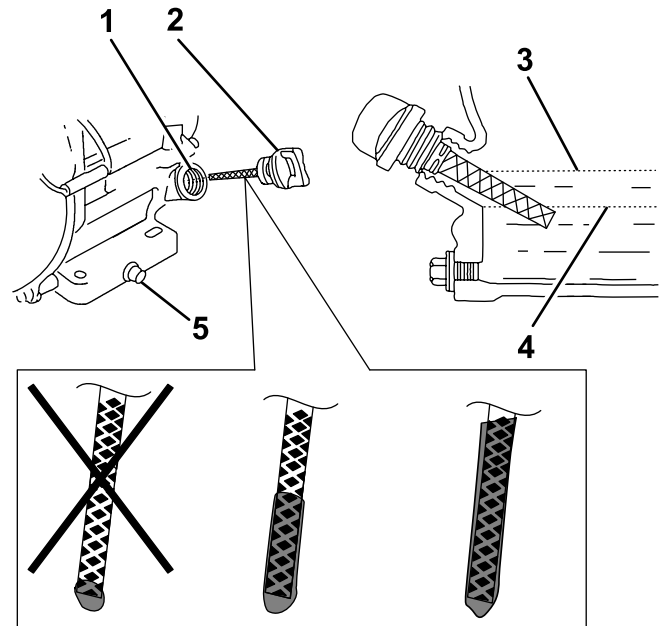

Figure 15
5. Remove the dipstick again and look at the end. If the engine oil level is low, slowly pour only enough oil into the filler tube to raise the level to the upper limit of the dipstick or the bottom edge of the filler tube (Figure 15).
6. Remove the dipstick and slowly pour oil into the filler hole until the oil level reaches the middle of the dipstick (Figure 15).